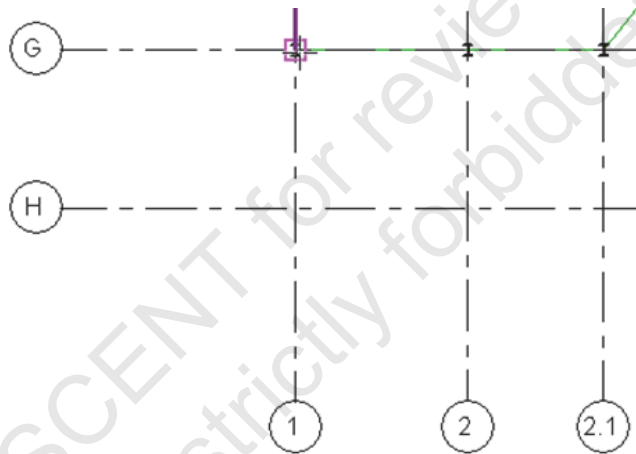

Figure 1–67
7. Select the start point by snapping to the intersection at **Grid G1** as shown in Figure 1–67.